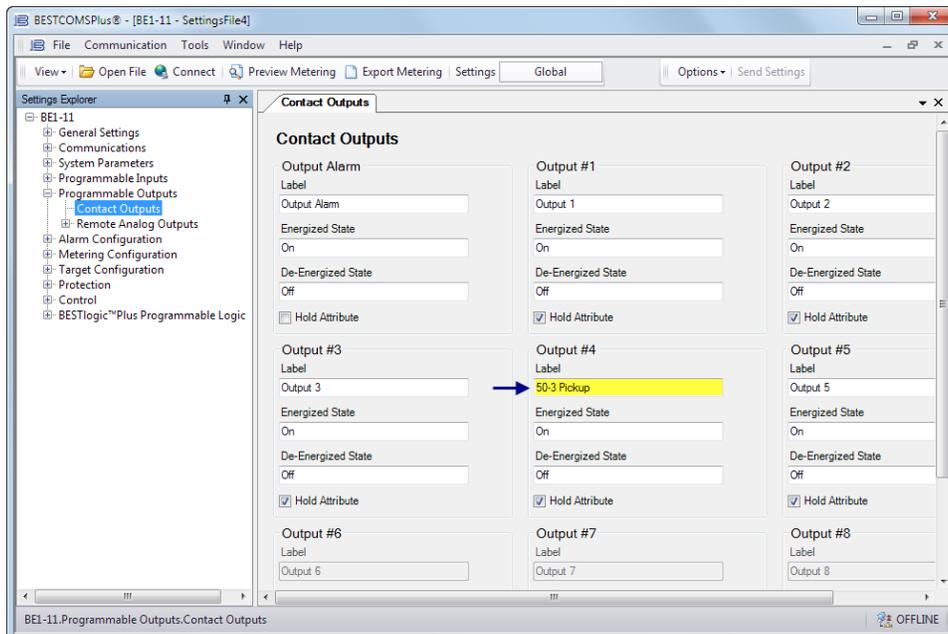

Figure 18. Contact Outputs Screen
Step 13: In the Settings Explorer, expand Programmable Outputs, Contact Outputs, and name Output #4 (50-3 Pickup) as shown in Figure 18.